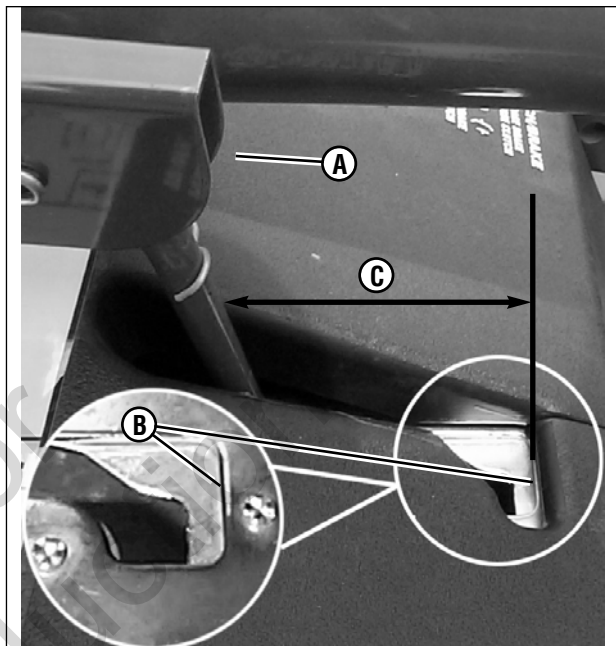

Figure 31: Measuring blade brake clearance
1. With the blade engagement lever disengaged, measure the distance between the front of the blade lever (**A**, **Figure 31**) and the edge of the latch plate (**B**). The dimension (**C**) should be 3" to 3-1/4" clearance between the lever and the edge of the plate. If the dimension is incorrect go to step 2.